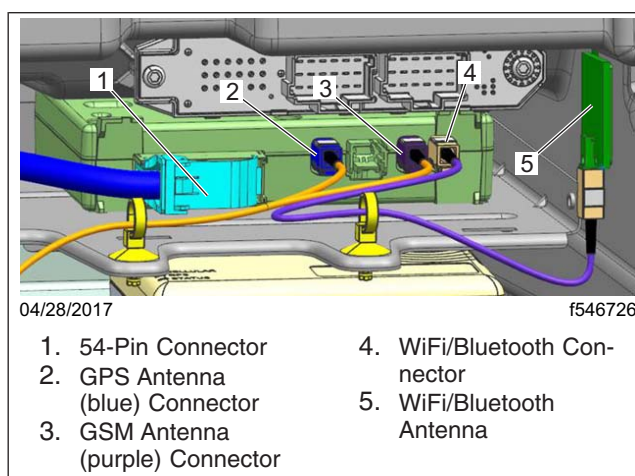

Fig. 1, Common Telematics Platform ECU
5. Disconnect the connectors from the cTP ECU. See Fig. 1.
3. Disconnect the GPS and GSM antenna connectors from the cTP. See Fig. 1.